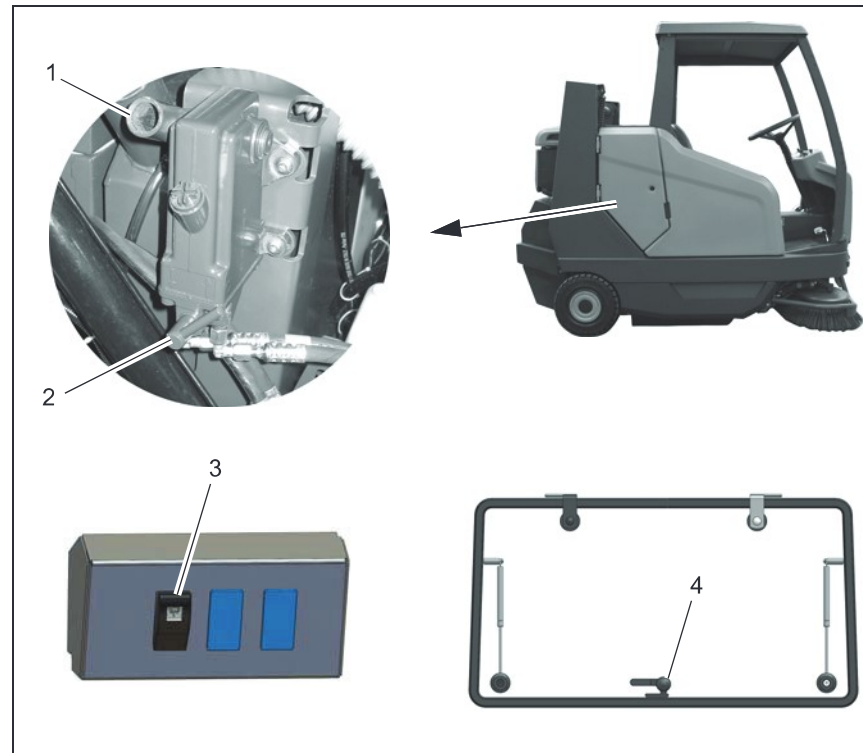

Fig.22
2. Open the side flap and fit the pump lever onto the hand pump (Fig. 22/1).
3. Set the handle (Fig. 22/2) on the pump to "LOWER" (arrow downwards) and pump the cab down with the pump lever until it moves no further.
The wiper is switched on and off with the switch (Fig. 22/3). The wiper switches off in the end position.
Unlock the rear window with the lever (Fig. 22/4) and set it in the required position.